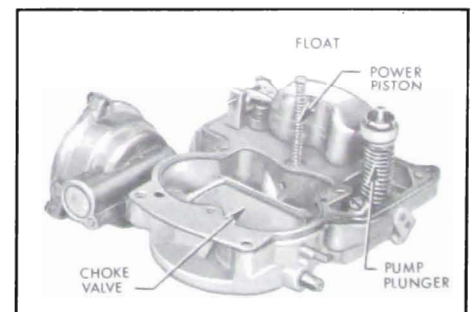

Figure 3-32—Air Horn Parts - V-6 Engine
1. Place air horn assembly inverted on bench. Remove float hinge pin and lift float assembly from cover. Remove float needle from float. Remove float needle seat, fibre gasket and needle seat screen. See Figure 3-32.